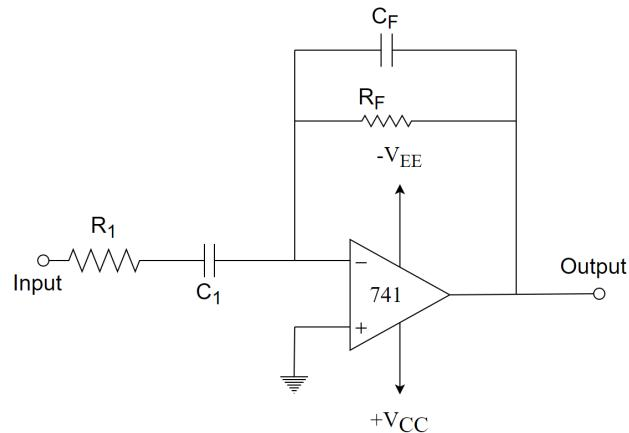

Figure 5.1: Differentiator Circuit
- Connect the circuit as shown in Fig. 5.1